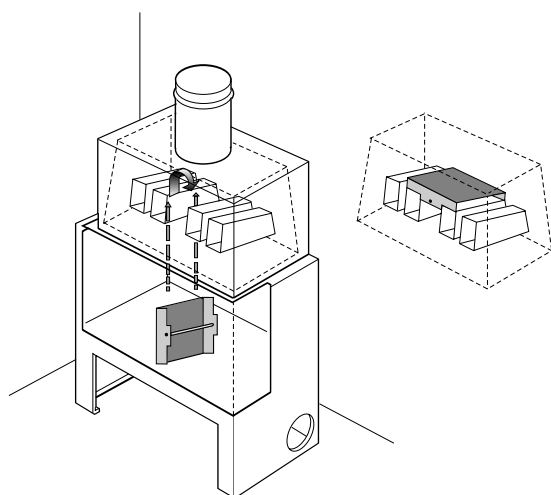

Fig. 5.9.2
5.9.2 Montaggio deflettore fumi (tranne L 45) (Fig. 5.9.2)
GB 5.9.2 **Smoke deflector installation (except for L 45) (Fig. 5.9.2)**
5.9.2 Montage des Rauchleitbleches (ausser L 45) (Abb. 5.9.2) **D**